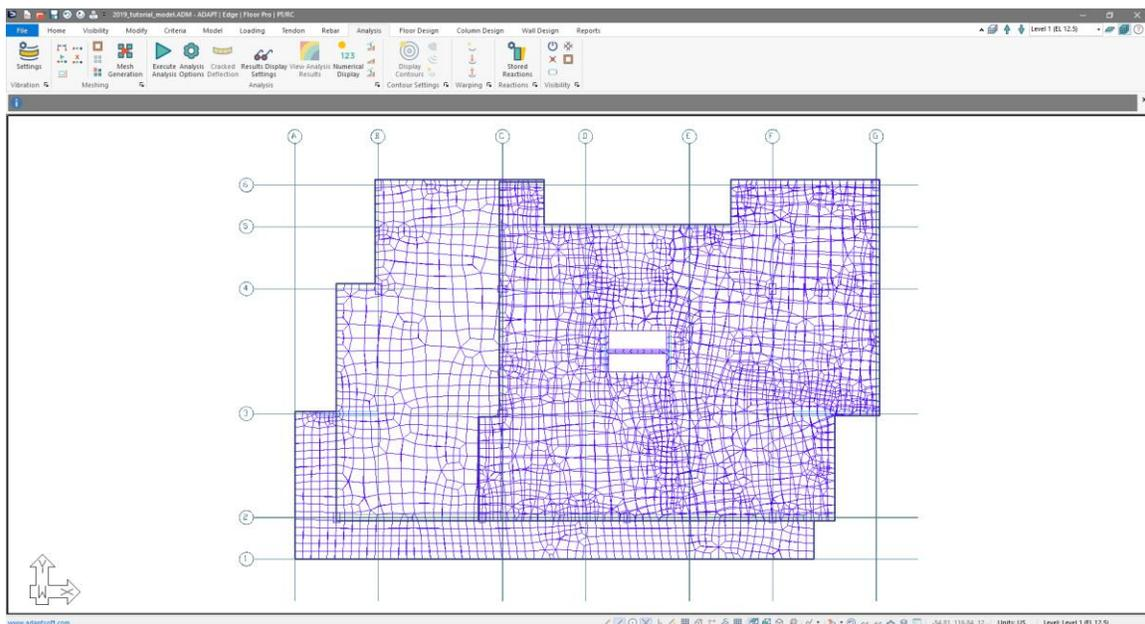

Figure 6-3
- When the program completes the meshing procedure, click on the **Top View**  icon in the **Camera and Viewports** Toolbar. This will bring you to the view of the model shown in **FIGURE 6-3**.